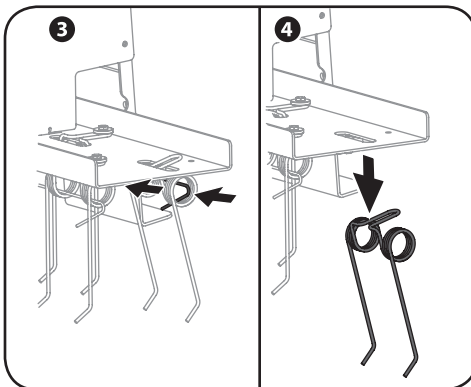

Figure 5-2
3. Pinch the end of the retention wire and slide off the spring tine to removed it. See 3 in Figure 5-2.
4. Carefully ease the spring tine backward (See 3 in Figure 5-2), and slide the spring tine downward out of the dethatcher tray. See 4 in Figure 5-2.